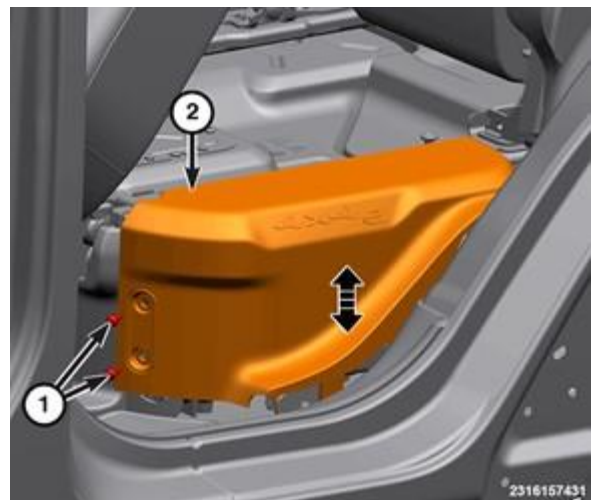

Figure 17 – HV Battery Side Trim
- 25. Remove the fasteners (1) from the side high voltage battery trim panels (2) (Figure 17).
63. Install the high voltage trim panel and press downward to seat the retainers (Figure 17).